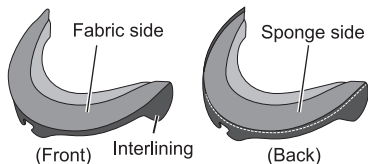

Fig.1
1. Refer to Fig.1 and check the front side and back side of the Wind Shutter-2.